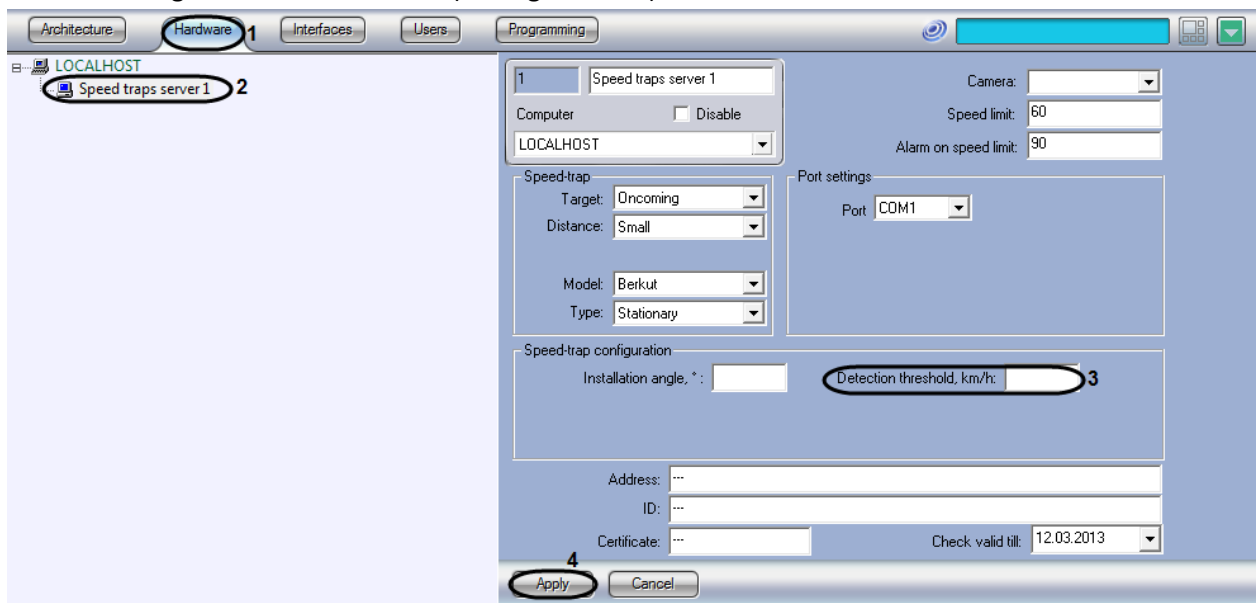

Fig. 7.3—10 Setting the minimum detectable vehicle speed
2. In the object tree on the left side of the Hardware tab, select the Speed-trap server object representing the Radar module to be set up. The settings panel of the selected object will open on the right side of the window (see Fig. 7.3—10).